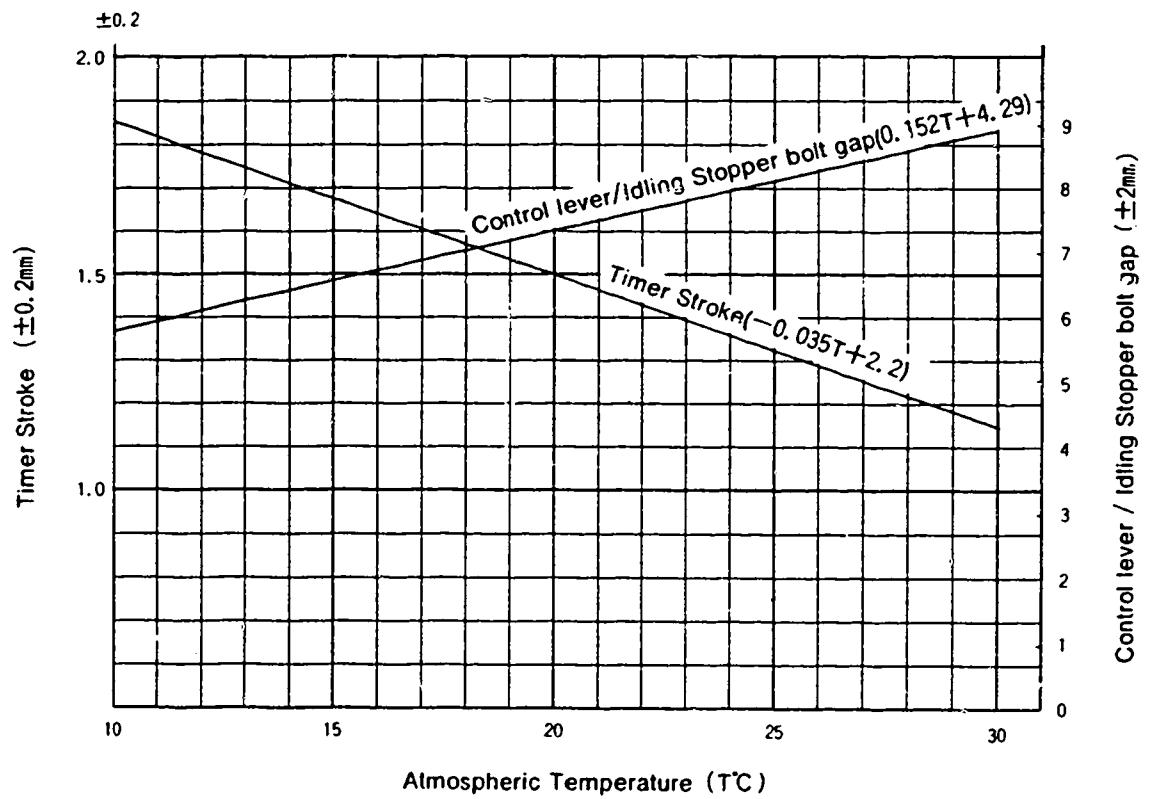

Fig 2
- ① Using the graph (Fig 2), determine the Timer stroke according to the atmospheric temperature at the time of adjustment.
- ② Adjust using the Timer Stroke adjusting bolt so that the Timer Stroke corresponds to the value determined in note ① above.
- ① Insert a block gauge of 5.3 ± 0.05 mm thickness in the gap between the control lever and the idling stopper bolt.
- ② From Fig 2 determine the dimension of the gap between the idling lever pin and the control lever according to the atmospheric temperature at the time of adjustment.
- ③ Adjust using the fast idle adjusting screw so that the gap corresponds to the value determined in note 2) ② above.